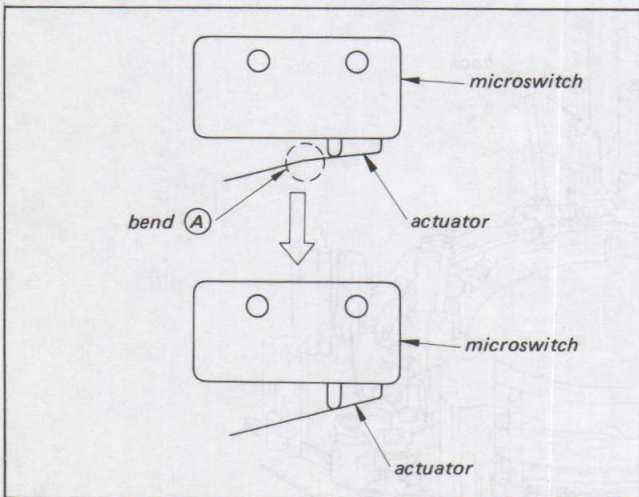

Fig. 3-23.
- 1) If the switch does not trip after inserting a $\phi 1.5$ pin, loosen small screw (B) and adjust by moving in the direction of the arrow little by little.
- 2) Bend the switch actuator as shown in Fig. 3-23 if the switch turns on when a $\phi 0.6$ pin is inserted.